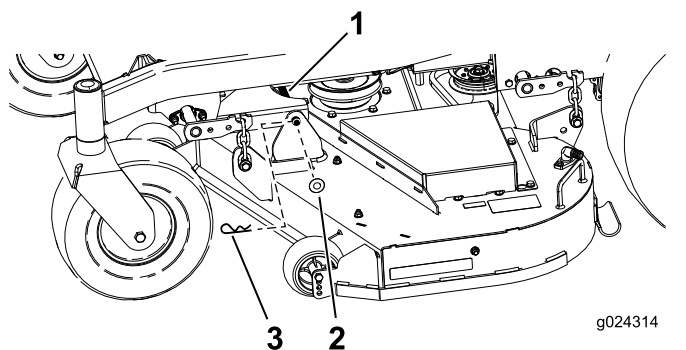

Figure 75
1. Remove the hair pin cotter and washer securing the long, link pin to the frame and deck; remove the link bar (Figure 75).
9. Secure the link pin with the hair pin cotters and washers removed previously (Figure 75).